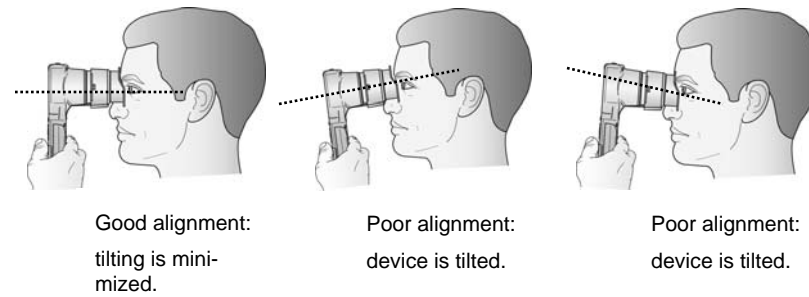

Figure 3.3A
- The operator should position the instrument at a right angle to the subject’s axis of vision and any tilting of the instrument should be minimized (Figure 3.3A).
The Targeting and Measurement phases take a few seconds (depending on the duration of the Targeting phase), during which time the subject's eye should be wide open, with no blinking. While the measurement is being recorded, hold the Pupillometer as still as possible against the orbital rim, minimizing any tilting until the message "Capture Done!" is displayed on the screen (Refer to Figure 3.3A).